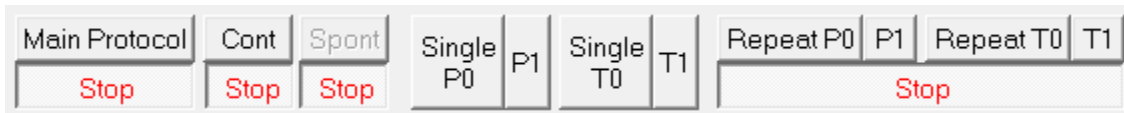

Fig. 2.15.2. The Run buttons.
1. Click the '**Main Protocol**' button (Fig. 2.15.2), then